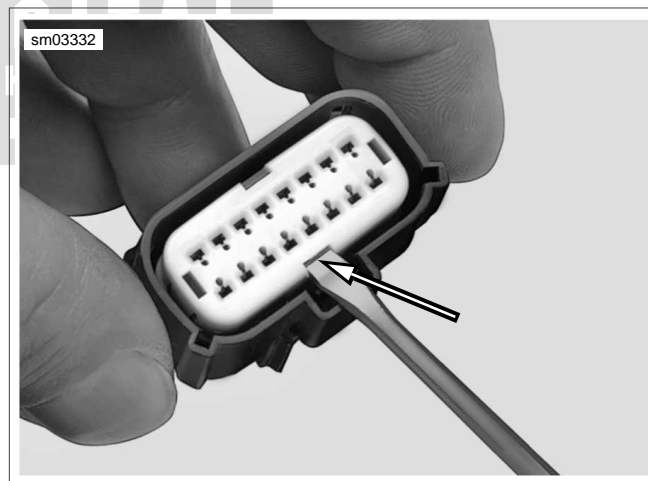

Figure A-26. Secondary Lock Pry Slot (Socket Housing)
- a. **Socket Housing:** See Figure A-26. Use a small screwdriver in the pry slot. The slot next to the external latch provides a pivot point.